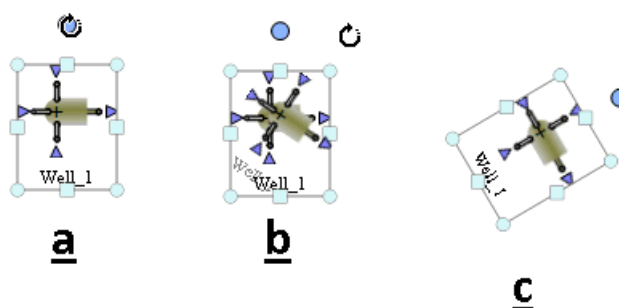

Figure 5.6 Rotating a Block: free rotation
- Hover the mouse over the rotation handle until the mouse pointer changes into a rounded arrow (Figure 5.6-a)
- Drag the selection handle to reach the desired rotation angle of the Block (Figure 5.6-b)
- Release the mouse (Figure 5.6-c)